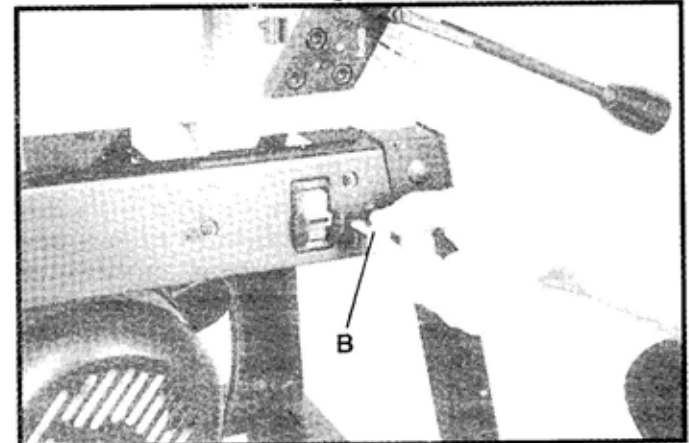

Fig. 34
We suggest that when the jointer is not in use, the switch be locked in the "OFF" position. This can be done by grasping the switch toggle (B) Fig.34, and pulling it out of the switch as shown. With the switch toggle (B) removed, the switch will not operate. However, should the switch toggle be removed while the machine is running, it can be turned "OFF" once, but cannot be restarted without inserting the switch toggle (B).